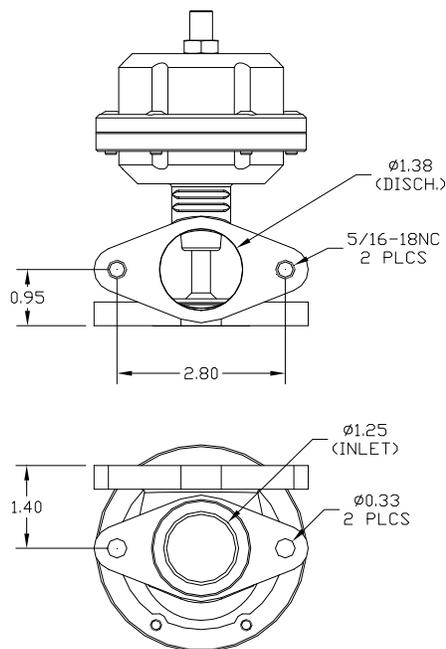

Figure 2
3. The **Evolution Wastegate** features the same flange-mount inlet and discharge connections as the Deltagate wastegate (refer to Figure 2). A discharge gasket is supplied with the wastegate kit, and no inlet gasket is required, as the floating valve seat acts as the inlet seal. Be sure all mating surfaces are flat and free of irregularities. Once all mounting and discharge routing provisions have been determined and fabricated, install and secure the wastegate with 5/16" diameter fasteners (grade 5 or better recommended) and mechanical locknuts (conventional split lockwashers lose their holding power when exposed to high temps). **NOTE:** A variety of mating flanges, fittings and other accessories are available from your nearest Turbonetics distributor (see common accessories list on last page).